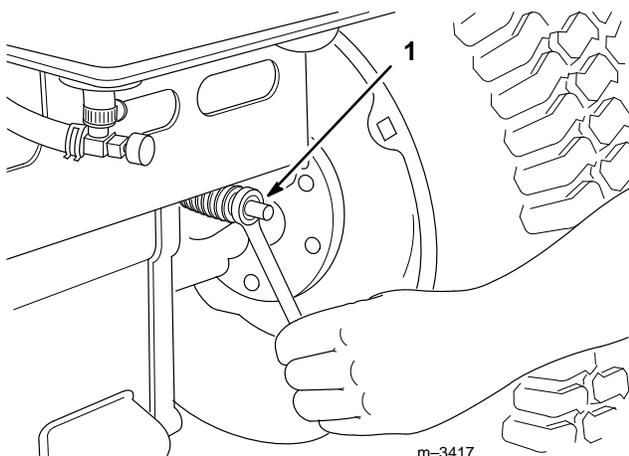

Figure 39
The brake adjustment is at the rear of the tractor (Fig. 39). If the parking brake does not hold securely, an adjustment is required.
4. Turn the brake adjustment nut (Fig. 39) until there is 2" (51 mm) of free travel.